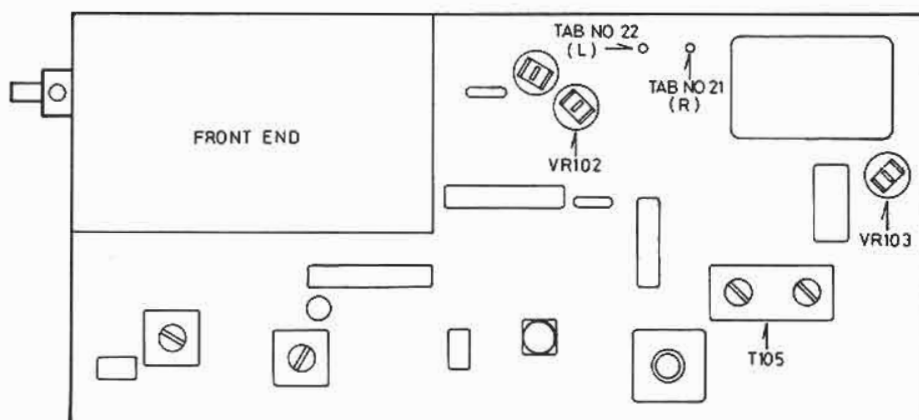

Fig. 17
3. Connect VTVM, Oscilloscope and distortion meter to REC jack or speaker terminal as Fig.17.